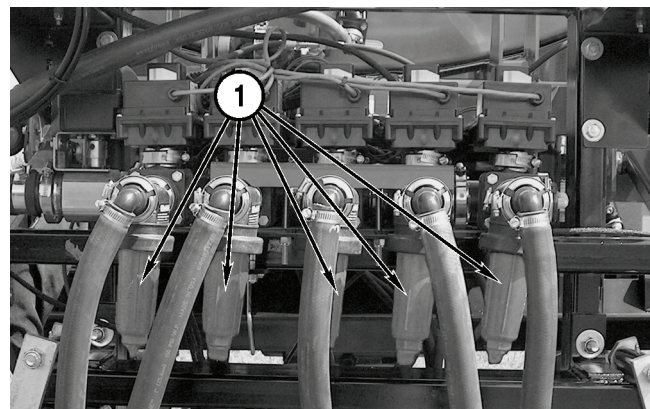

Figure 5-67
7. Remove all boom section strainers (**Figure 5-67, 1**) and the product strainer.